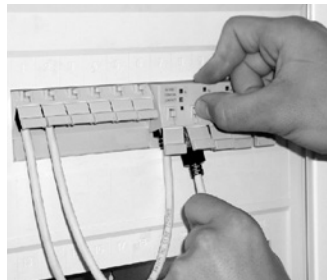

Figure 8
- 4 For the disconnection of the patch cord from the terminals press the release knob above of the respective terminal at first and then extract the plug from the terminal (fig. 8).